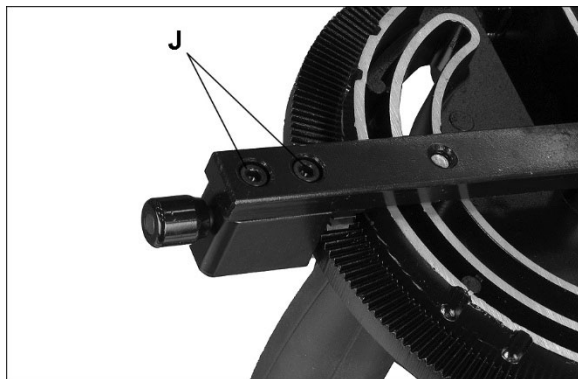

Figure 18
4. Adjust body (B) until it is square (90°) to miter slot.
5. Tighten lock handle (A).
6. Verify that *scale indicator* (G) reads 0°. If further adjustment is needed:
7. Loosen *screw* (F) and adjust *indicator* (G) until it reads 0°.
8. Tighten *screw* (F).
9. If the above procedure does not satisfactorily align the miter gauge, loosen two screws (J, Figure 18) beneath mounting block and shift block as needed. Retighten screws when finished.